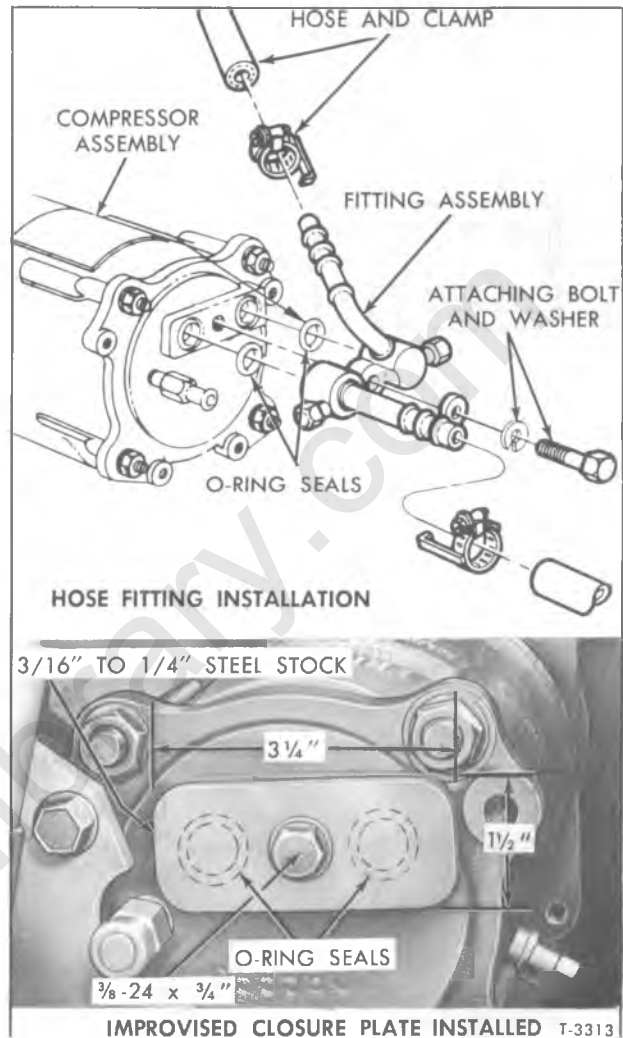

Figure 14—Compressor Fittings Installation
The compressor removed must be closed immediately. See lower View of figure 14 which shows
5. After the system is completely depressurized, very slowly loosen screw which retains compressor fittings assembly to compressor (see fig. 14). As screw is being loosened, work fittings assembly back and forth to break seal and carefully bleed off any remaining pressure.
7. Immediately cover compressor openings. A simple way is with a plate (similar to the one on new compressor) which can be attached with fittings assembly screw, using the O-rings to provide a seal. See lower portion of figure 14.